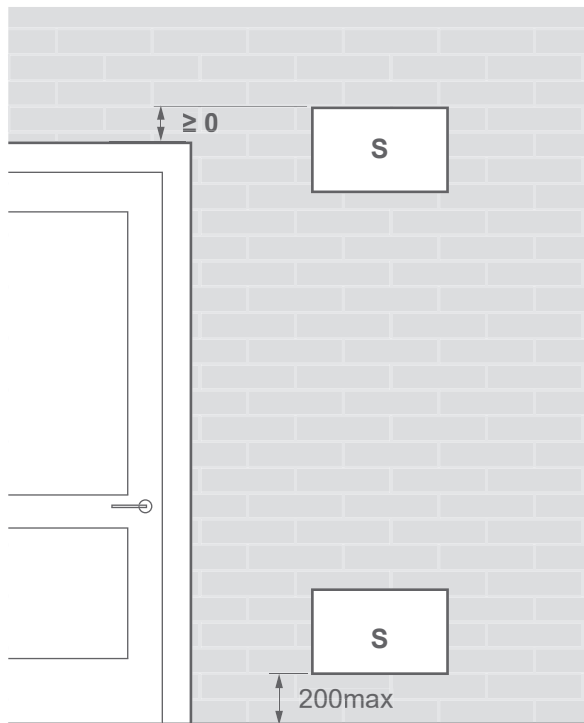

fig. 21 - Position of openings for ventilation
- The room is naturally ventilated with another room, where the total volume of the two rooms is greater than "fluid fill load" (in kg) / 0.3 kg/m³. The two rooms are ventilated with openings of at least: view *fig. 22* and *fig. 21*.